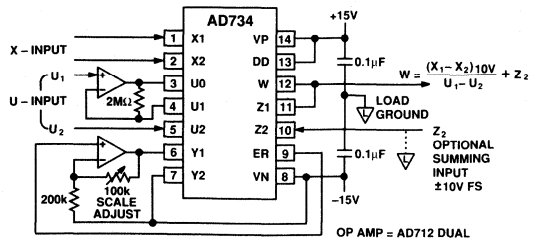

Figure 12. Two-Quadrant Divider with Fixed 10 V Scaling
The output ER may also be buffered, re-scaled and used as a general-purpose reference voltage. It is generated with respect to the negative supply line Pin 8 (VN), but this is acceptable when driving one of the signal interfaces. An example is shown in Figure 12, where a fixed numerator of 10 V is generated for a divider application. There,  $Y_2$  is tied to VN but  $Y_1$  is 10 V above this; therefore the common-mode voltage at this interface is still 5 V above VN, which satisfies the internal biasing requirements (see Specifications Table).
Where a numerator of 10 V is needed, to implement a two-quadrant divider with fixed scaling, the connections shown in Figure 12 may be used. The reference voltage output appearing between Pin 9 (ER) and Pin 8 (VN) is amplified and buffered by the second op amp, to impose 10 V across the Y1/Y2 input. Note that Y2 is connected to the negative supply in this application. This is permissible because the common-mode voltage is still high enough to meet the internal requirements. The transfer function is